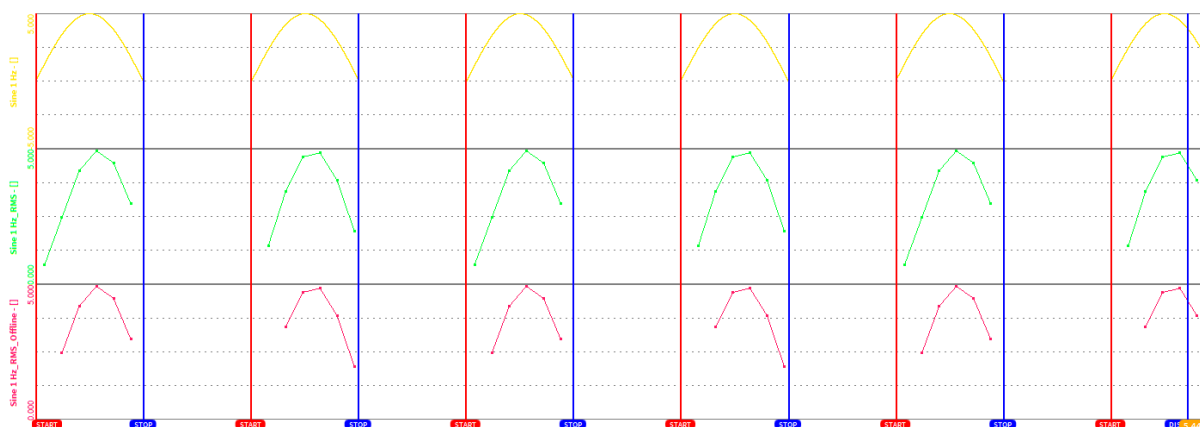

Fig. 7.174: Deviation of Offline and Online Statistics channels in case of Event based Waveform recording
- Be aware that an Offline Statistics channel will differ from an Online Statistics channel, i.e. at the beginning of the file or in case of Event based waveform recording (see Triggered Events). In the example displayed in Fig. 7.174, the green channel is an online calculated Statistics channel applied on the yellow analog channel and the red channel is an offline calculated Statistics channel applied on the yellow analog channel with identical channel settings. The deviation of the green and the red channel is due to the availability of the full analog data during online calculation. During the offline calculation, only the event based recorded analog data is available.